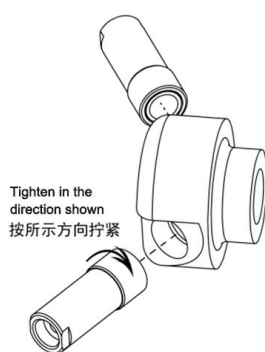

Fig. 2
- 2) Install the nozzle on the rotating head (see Fig. 2)